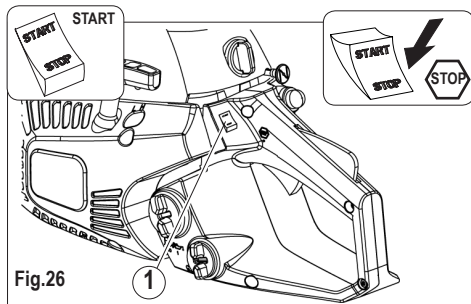

Fig.26
- 2) Press the stop switch to "START" (fig.26 item 1).
1) To stop the motor, press the switch to **“STOP”** (fig 26)
- 1) Press the stop switch to **“START”** (fig.26 item 1).